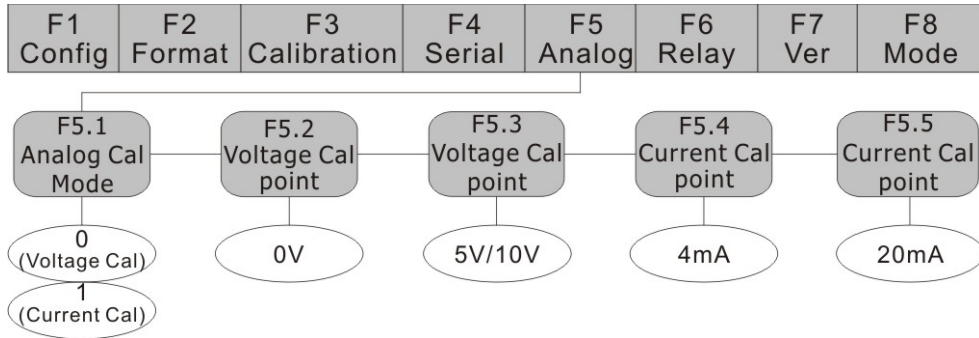

Fig. 5-1 Analog output calibrate menu
- (1) Set indicator to the Configuration mode (display shows "F 1")
- (2) Press **【TARE】** until the display shows "F 5" (See fig 5-1). Press **【ZERO】** and go to submenu of analog output mode setting, the display shows "F 5.1".
- (3) When display shows "F 5.1", press **【ZERO】** again, the display shows the analog value that need to be calibrated. Press **【TARE】** to select the calibrate mode. When F5.1=0, voltage mode is selected; when F5.1=1, current mode is selected.
- (4) Analog calibrate process: